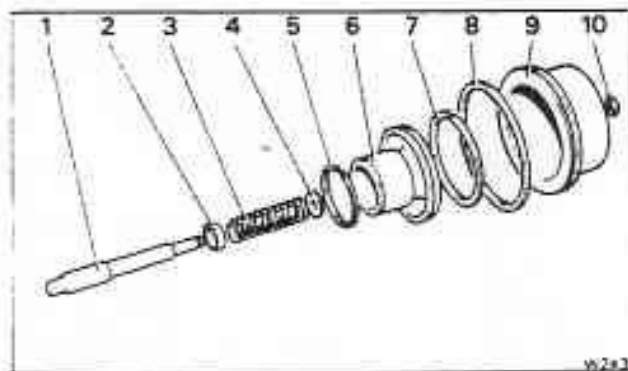

Fig. T13-7 Rear servo and accumulator
1. Remove the rear accumulator piston from the rear servo piston (see fig. T13-7).